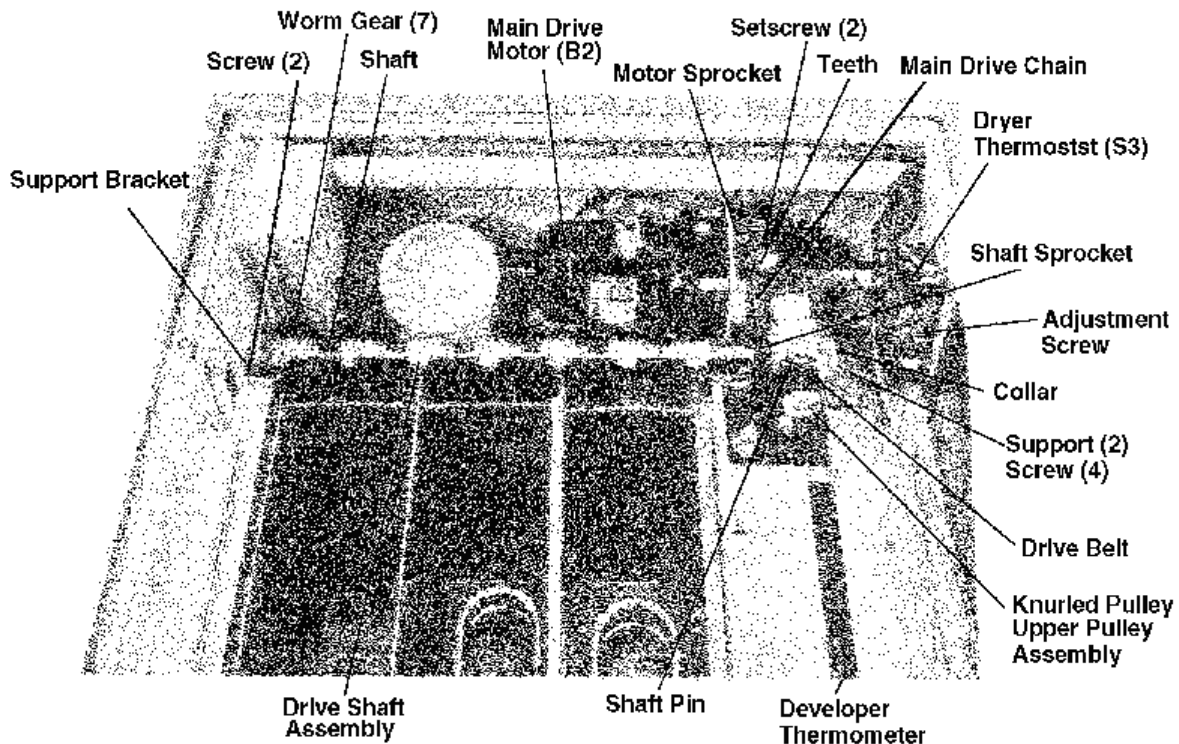

Figure 2-3. Drive shaft assembly and motor.
(2) Remove any foreign matter from the solutions.
(3) Check the tension of the chain to make sure that it turns freely and that the rollers do not hesitate. Refer to figure 2-3.
(2) Check the main-drive chain to determine if lubrication is required. Refer to figure 2-3.
(1) Drain and refill the main-drive motor gear housing through the oil refill hole (on the top) to the oil level hole (on the side). Refer to figure 2-3.
(2) Use a light oil such as SAE number 20 motor oil.